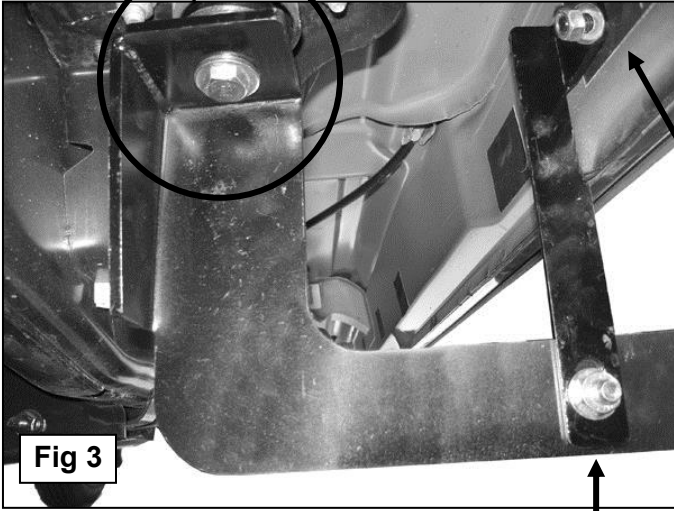

Fig 3
2. Select the driver side front Mounting Bracket. Insert (1) 12-1.75mm x 120mm Hex Bolt with (1) 12mm ID x 32mm OD x 3mm Flat Washer and (1) 12mm Lock Washer through the Mounting Bracket. Place (1) Spacer Plate onto the 12mm Hex Bolt then slide the rubber bushing onto the Hex Bolt. Make sure that the Spacer Plate is between the Mounting Bracket and the factory rubber bushing, (**Figure 3**). Hold the front Mounting Bracket, (with hardware, factory washer and rubber bushing), up in position and hang it from the body mount by threading the hex bolt into the body mount. Snug but do not tighten hardware at this time. **IMPORTANT:** On 05 and newer model years, the large washer on the factory body mount bolt is removable, (do not discard-must reinstall), and the bolt is long enough to go through the Mounting Bracket and properly thread into the body mount. It is the installer's responsibility to check length and to determine whether to use the factory or replacement hex bolt.
5. Locate the driver side front Support Bracket (long) and attach it to the Bolt Plate with (1) 10mm Lock Washer, (1) 10mm Flat Washer and (1) 10mm Hex Nut, (**Figure 3**). **NOTE:** Place Support Bracket against the front facing side of the Mounting Bracket with the bent tab facing towards the **front** of the vehicle. Snug but do not tighten hardware at this time.
6. Attach the lower end of the front Support Bracket to the Mounting Bracket using (1) 10mm x 30mm Hex Head Bolt, (1) 10mm Lock Washer, (2) 10mm Flat Washers and (1) 10mm Hex Nut, (**Figure 3**). Do not tighten hardware at this time.